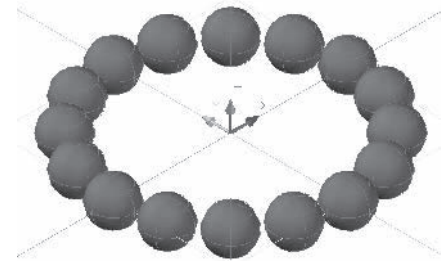

Fig. 42-12
2. Create a mesh ball bearing that measures  $.3625''$  in diameter. Use a polar array to create a ring of 16 balls using a  $1''$  radius. View the bearings in an isometric view, and apply the **Realistic** visual style, as shown in Fig. 42-12. Save the drawing as **3dbearing.dwg**.